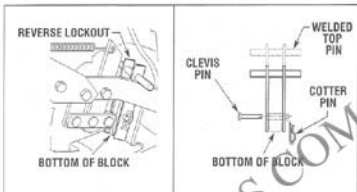

Figure 2-11: Install Reverse Lockout.
A. Place Reverse Lockout on belt adjustment block as shown in Figure 2-11.